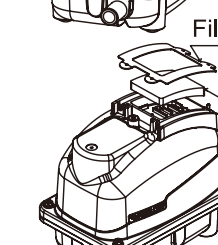
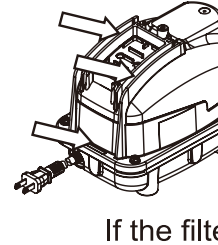

Figure 3
Figure 4
- ④Remove the filter from the upper housing and replace it with a new or clean one. (Figure 3) Flick the dirty filter well to remove the dust. When it is extremely dirty, use neutral detergent and rinse well, then let dry in the shade.
- ⑤Check and make sure the air inlet is not clogged.
- ⑥Remove the dust at the upper housing rear. (Figure 4)